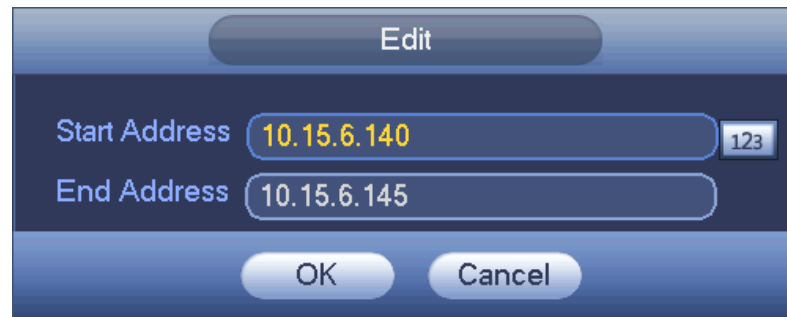

Figure 3-157
- Edit: Click it to edit start address and end address. See Figure 3-157. System can check the IP address validity after the edit operation and implement IPv6 optimization.